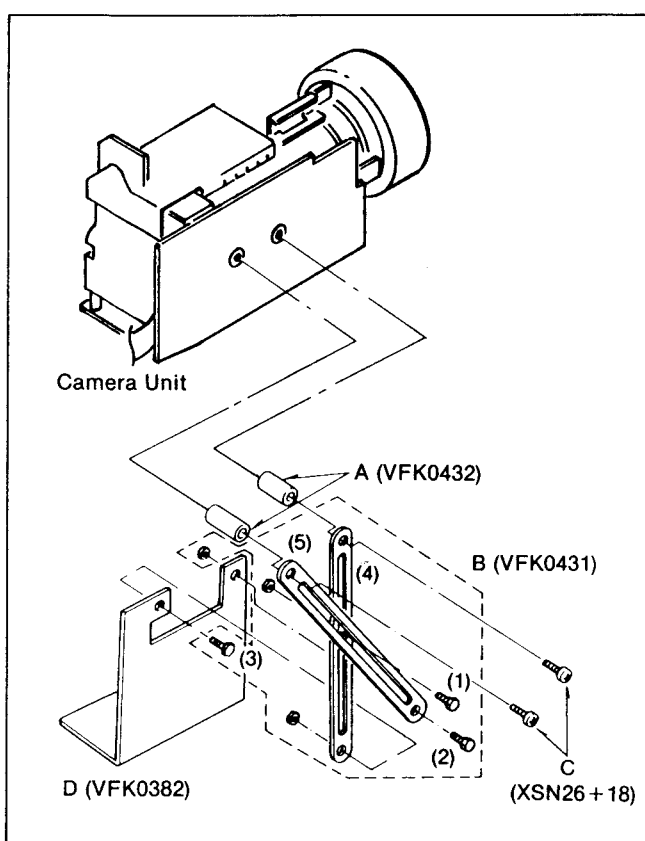

Fig. S5
- (A) --- VFK0432 Holder Spacer (2pcs.)
- (B) --- VFK0431 Camera Holder Arm
- (C) --- XSN26+18 Screw (2pcs.)
- (D) --- VFK0382 Camera Holder
1. Fix the Holder Arm (4) and (5) temporarily by screw (1) as shown in Fig.S5.
3. Tightn the screws (C) with the Holder Spacers (A) as shown in Fig. S5.